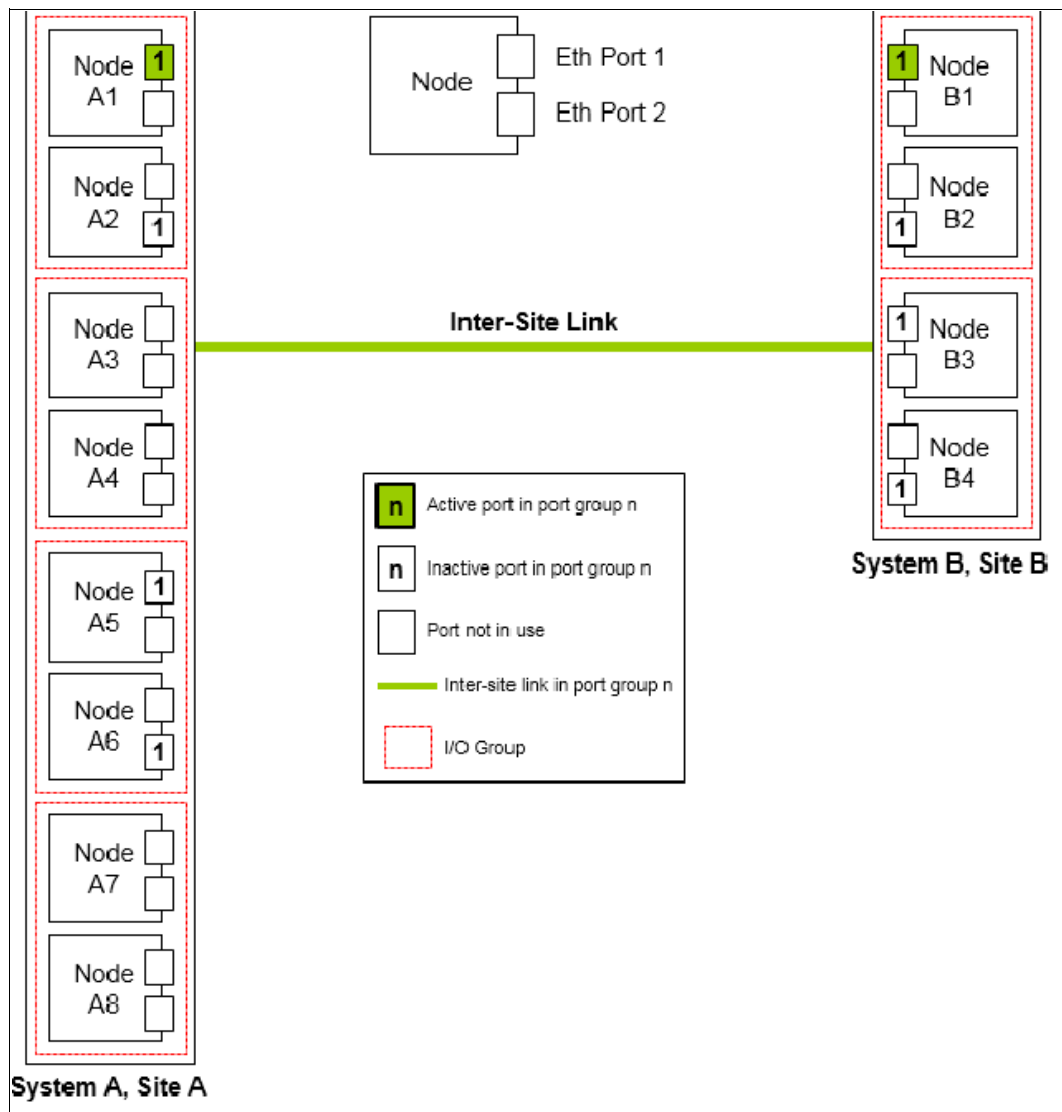
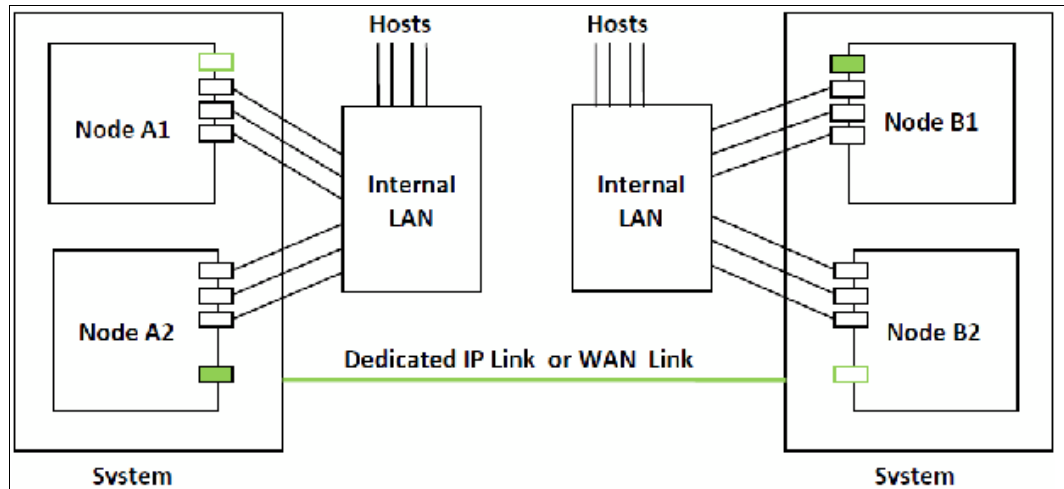
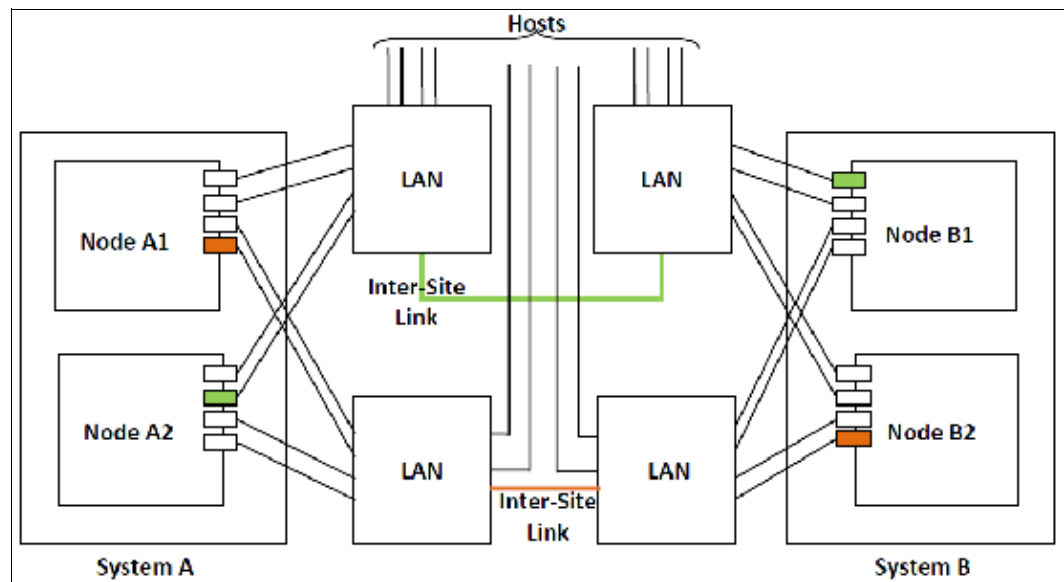

Figure 10-101 Multinode systems single inter-site link with only one Remote Copy port group
Figure 10-107 Deployment example
Figure 10-108 Deployment example
- Eight-node system in IP partnership with four-node system over single inter-site link, as shown in Figure 10-101 (configuration 4).
As shown in Figure 10-101 on page 684, an eight-node system (System A in Site A) and a four-node system (System B in Site B) are used. A single RC port group 1 is configured on nodes A1, A2, A5, and A6 on System A at Site A. Similarly, a single RC port group 1 is configured on nodes B1, B2, B3, and B4 on System B.
- An example deployment for configuration 2 with a dedicated inter-site link is shown in Figure 10-107 (configuration 10).
- Figure 10-107 on page 691 is an example deployment for the configuration that is shown in Figure 10-101 on page 684. Ports that are shared with host access are shown in Figure 10-108 (configuration 11).